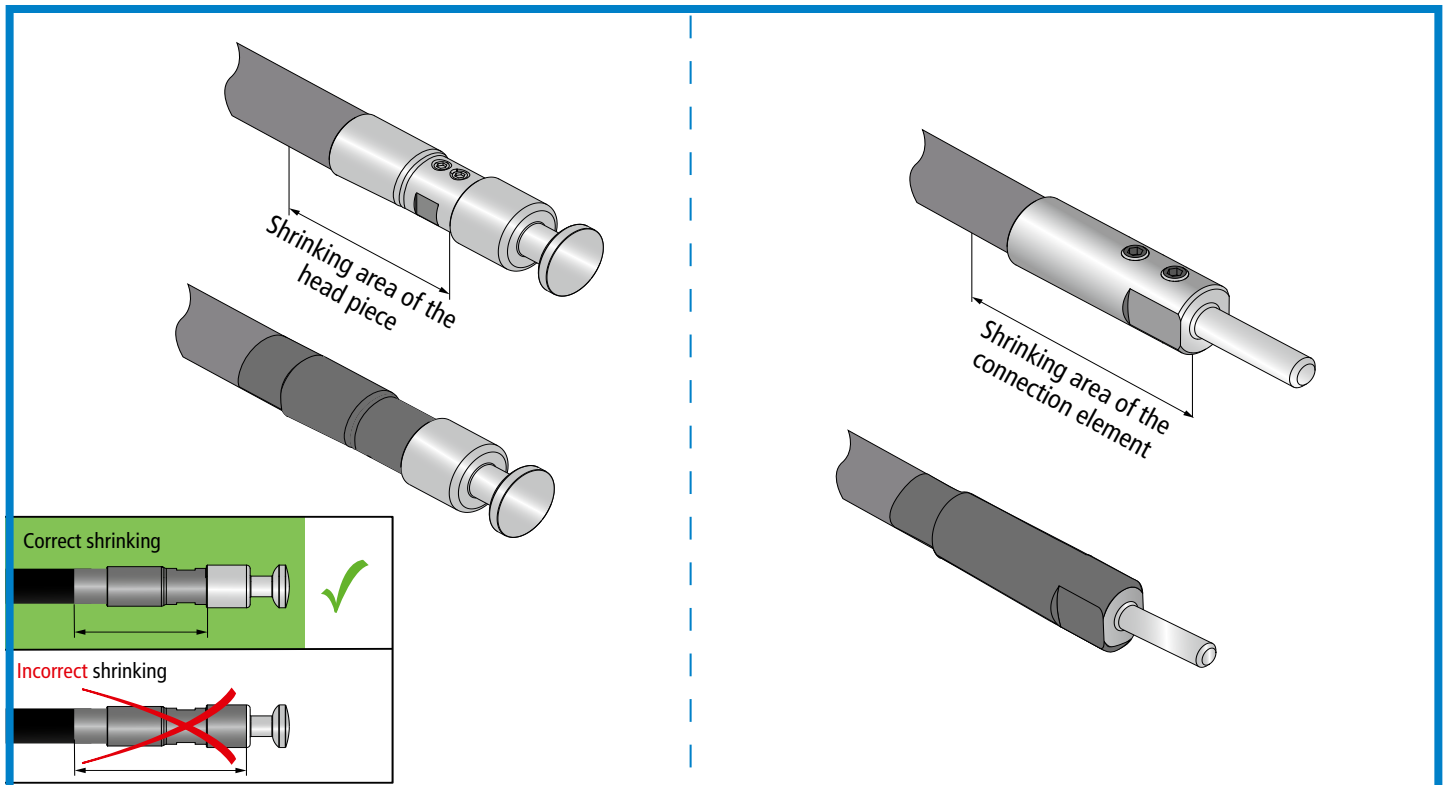

Figure 2 Wrapping a heat shrinkable sleeve around the head piece/connection element
- The indicated shrinking area from the head piece/connection element to the **HVI®long Conductor** must be observed (Fig. 2).